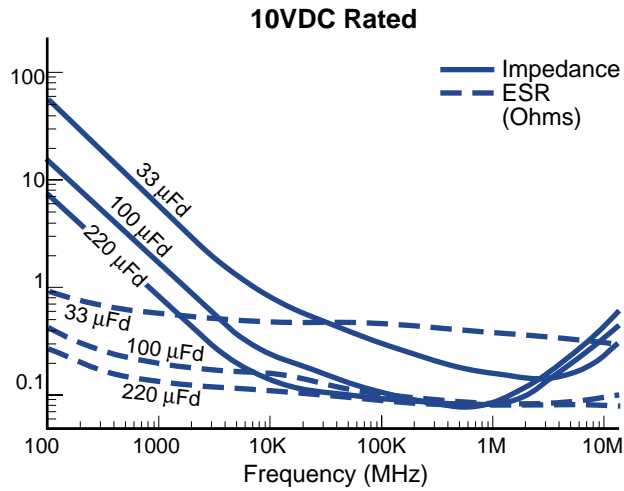

Figure 7a. ESR and Impedance vs. Frequency
**Equivalent Series Resistance** — The equivalent series resistance (ESR) of a solid tantalum capacitor is frequency dependent as shown in Figure 7a thru 7g. The curves are typical of the capacitor values noted, with measurements being made by contacting lead wires 1/4 inch from the ends of the capacitor cases. Since ESR decreases with frequency, AC performance at higher frequencies is considerably better than would be predicted from the 120 Hz ratings.